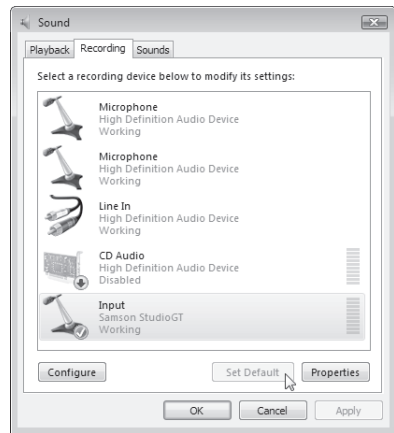

Figure 2
4. If it is not the default device, you can set it under the Sound Properties panel in Control Panel (figure 2).